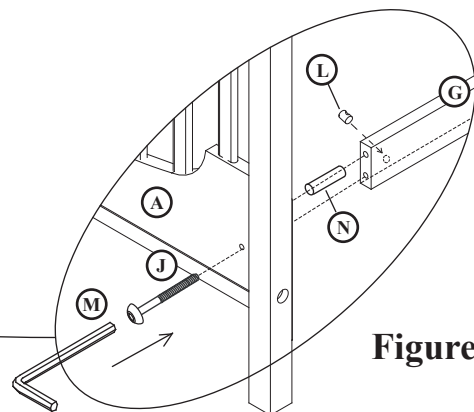

Figure 4A
Attach the bottom stretcher(G) to the crib ends using wood dowels (N) & 2" bolts (J) & barrel nuts(L) as shown in the Figure 4A.